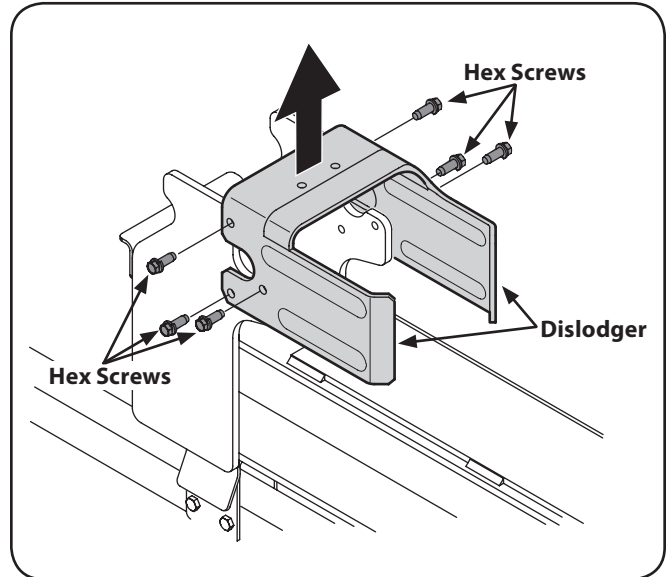

Figure 3-4
- Disconnect the dislodger from the beam weld bracket by removing the six hex screws. See Figure 3-4.
- Attach the dislodger over the wedge assembly and secure it to the weld brackets with the hardware removed in step 14. See Figure 3-4.